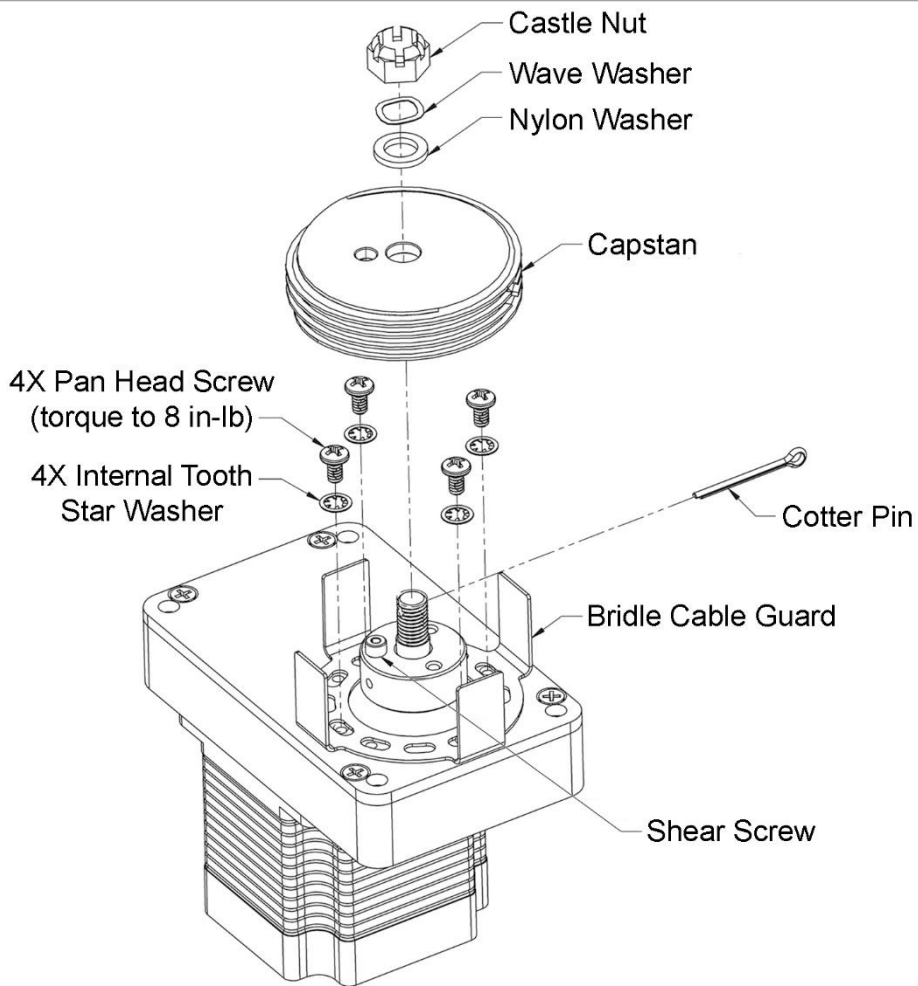
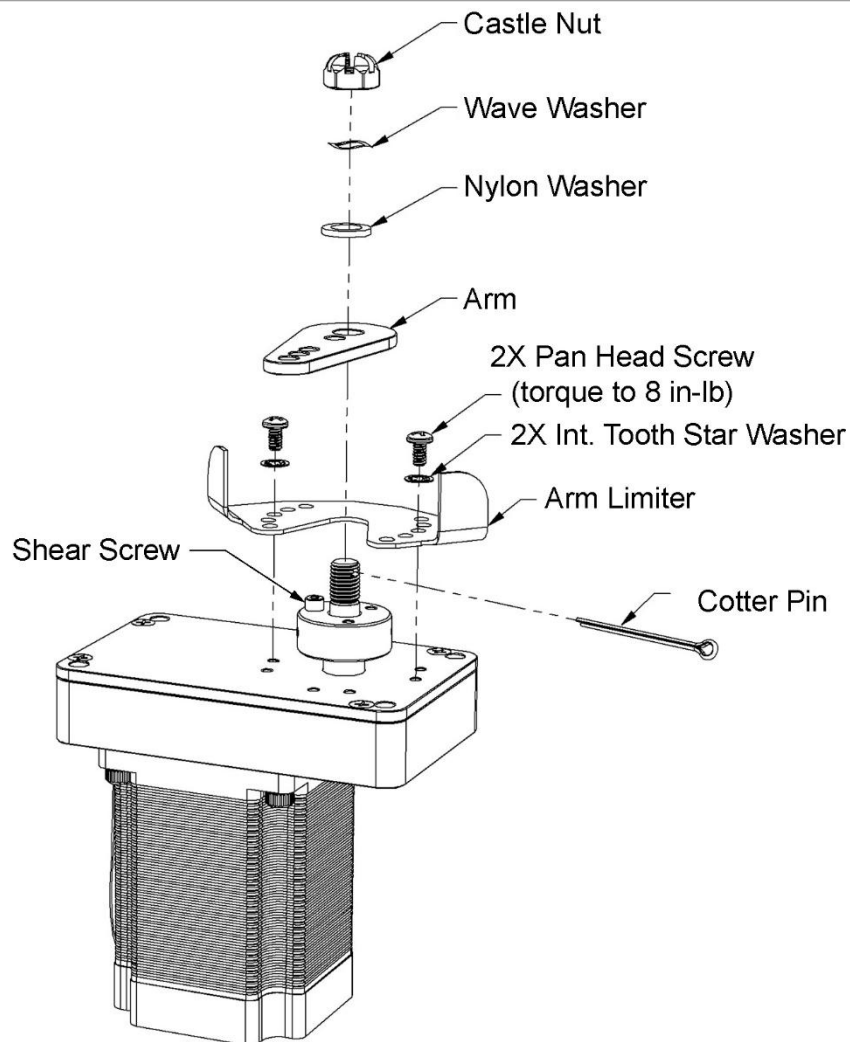

Figure 61: Exploded View of a Typical Servo Capstan Assembly
Figure 62: Exploded View of a Typical Servo Arm Assembly
5. Remove servo arm limiter from servo (see Figure 62). Retain hardware for installation.
4. Attach servo arm limiter to roll servo (see Figure 62).
2. Remove cotter pin that secures castle nut to servo shaft (see Figure 61 or Figure 62).